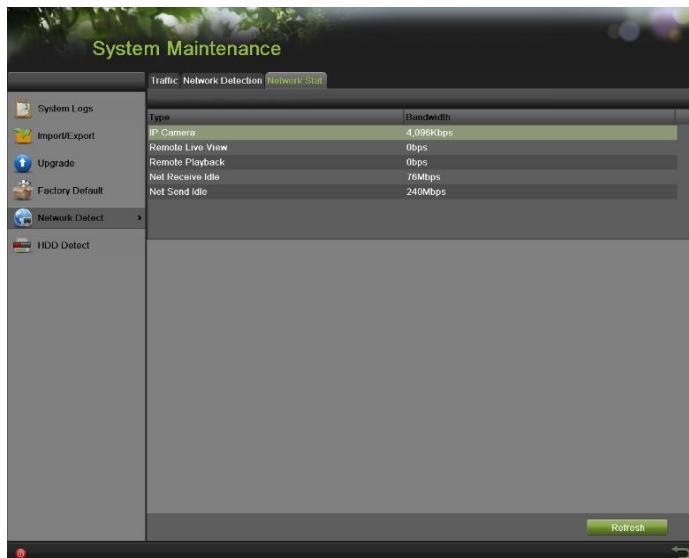

Figure 222 Network Stat. Interface
2. Select the Network Stat. tab to enter the Network Stat. menu, as shown in **Figure 222**.